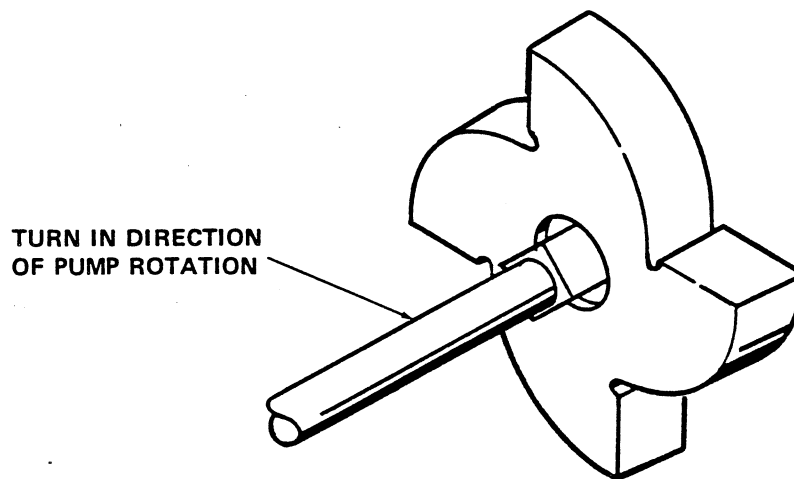

Figure 2. 48731-006 Impeller Tool With Drive Wrench
To remove the impeller (2), install a lathe dog on the end of the shaft (14) to prevent rotation and remove the impeller retaining hardware (34, 35, and 36). Install the impeller removal tool and use the end of a 1/2-inch drive ratchet extension (see Figure 2) to unscrew the impeller in a counterclockwise direction (when facing the impeller). Use caution when unscrewing the impeller; tension on the seal spring will be released as the impeller is unscrewed.